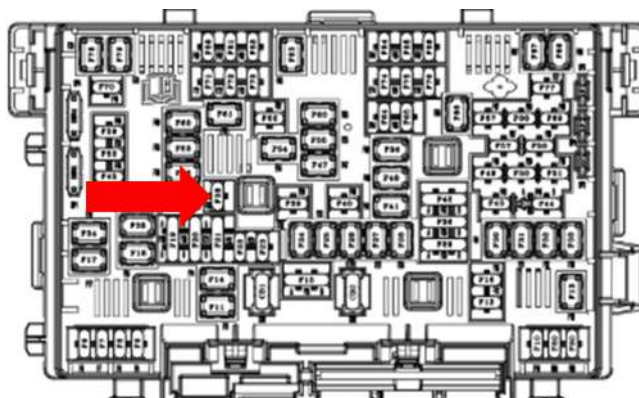

Fig. 3
6. Remove the PDC cover, locate and remove the #38 AGSM fuse Fig. 3.**
24. **Install the #38 AGSM fuse Fig. 3 and the PDC cover Fig. 2.